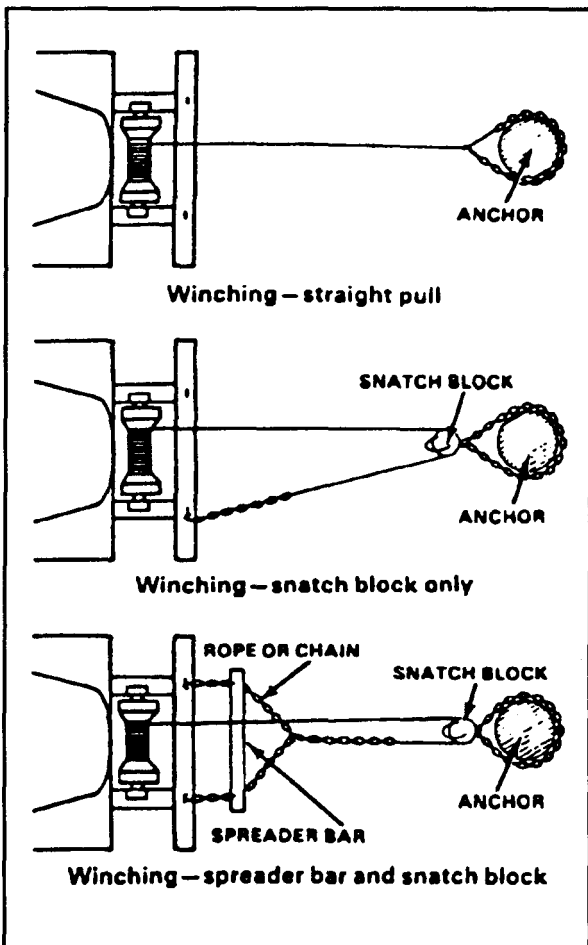

FIGURE 22-3. Vehicle Winching.
**Vehicle With Winch.** Select or construct a strong anchor. Attach a snatch block to the anchor with your tow chain. Run the winch cable through the block and back to the truck (Figure 22-3). Take up the slack gradually and pull the truck forward with its winch. Power may be applied to the wheels at the same time. Your vehicle technical manual/order technical order gives details on the operation.